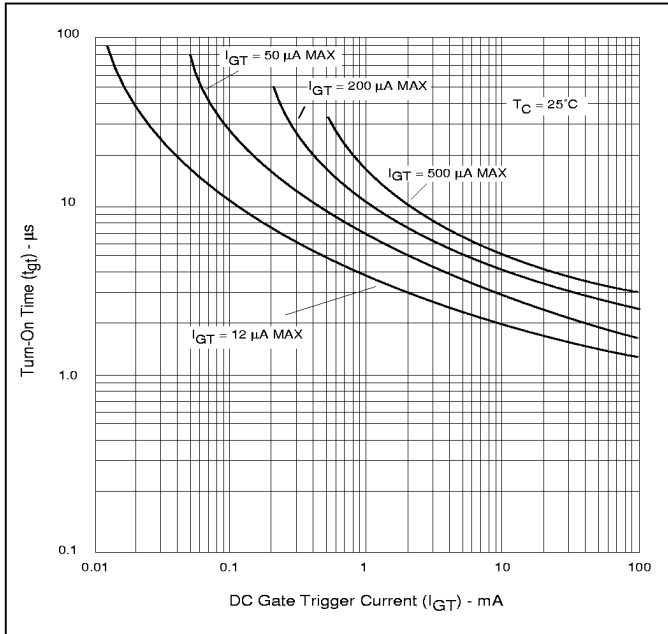

Figure 5.15 Typical Turn-On Time vs Gate Trigger Current
- (8) See Figure 5.15 for  $t_{gt}$  vs  $I_{GT}$ .
- (9) Test conditions as follows: